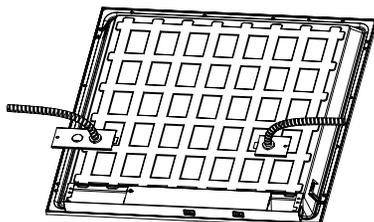

Figure 1
- Remove appropriate knockout(s) for power supply wiring. Use open knockout to bring in supply wire. (Figure 1)